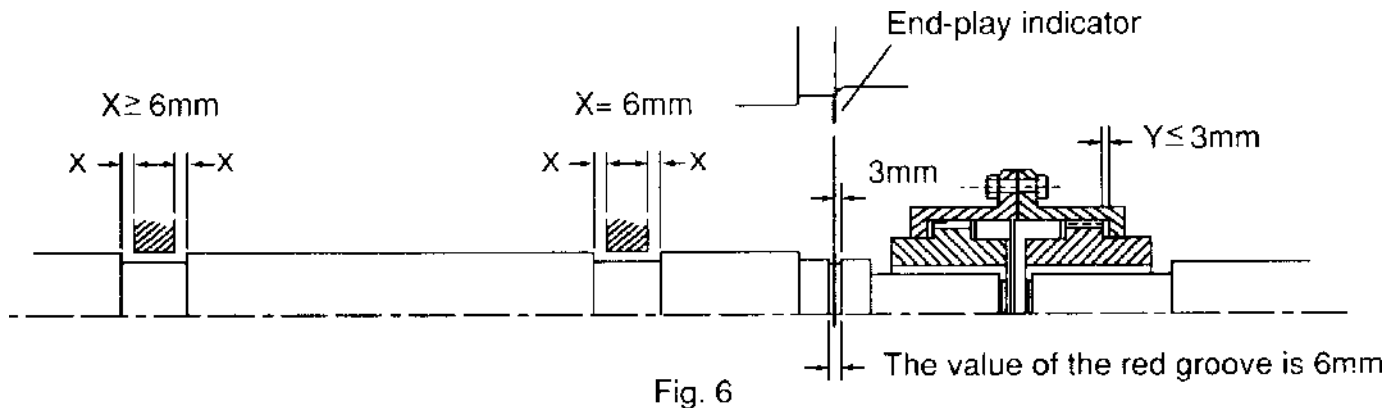

Fig. 6
- Unless otherwise specified, the designed end-play value X of the groove for TWMC motors in general is within 6mm (.236 in.) as illustrated in Fig. 6. In essence, the endplay indicator is adjusted to point at the center of the groove or the drive-end shaft shoulder; thus X equals to 6 ± 1 mm or so, and the endplay value (Y) of the couplings should equal or be smaller than 3mm (.118 in.).